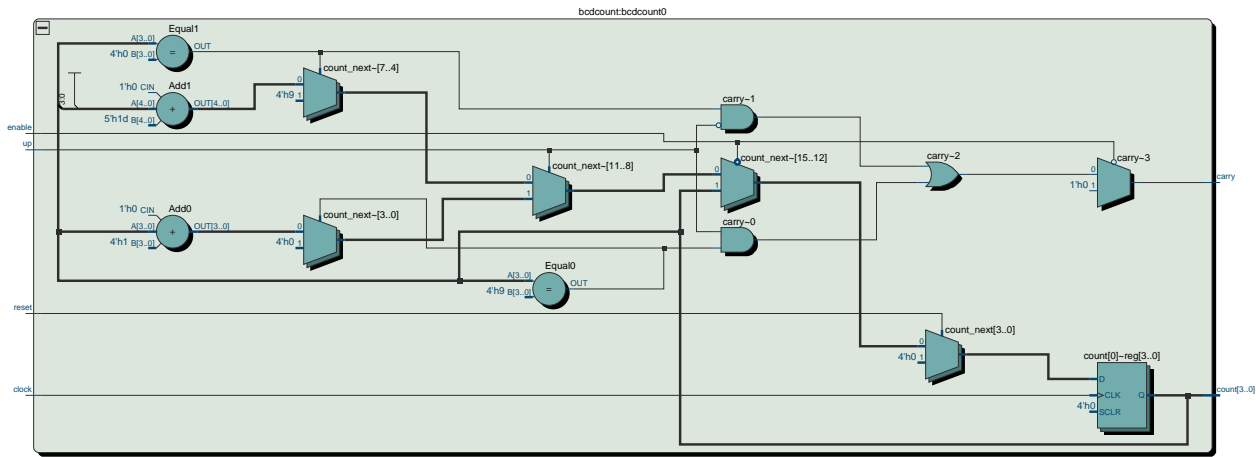

Figure 1: Example RTL Schematic for Lab 5.
- A listing of your `bcdcount00` block to expand it, and then `File > Export...`. The file should look similar to Figure 1.
the + button on the `bcdcount00` block to expand it, and then `File > Export...`. The file should look similar to Figure 1.